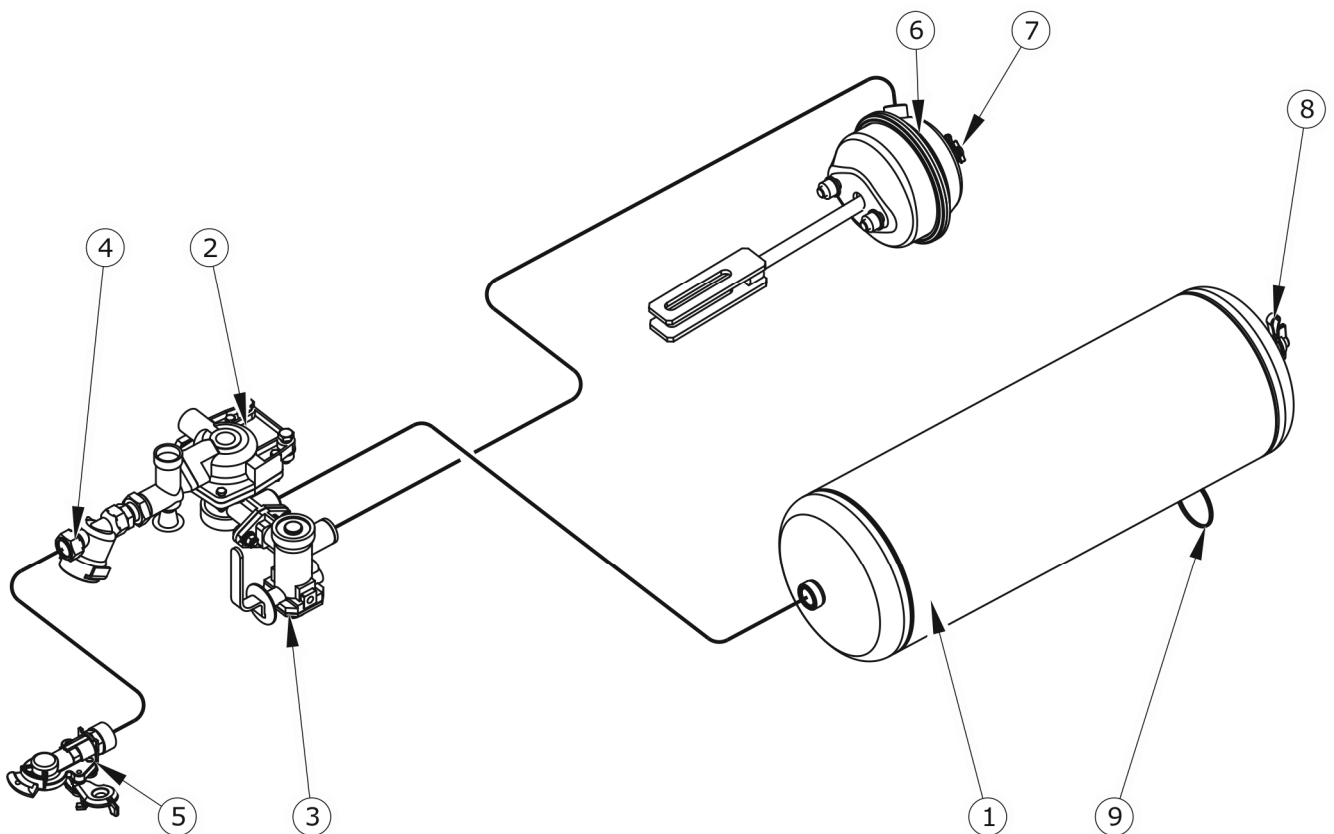

FIGURE 3.9 1-line pneumatic system
- Single line pneumatic system with 3-position controller - Figure 3.9;